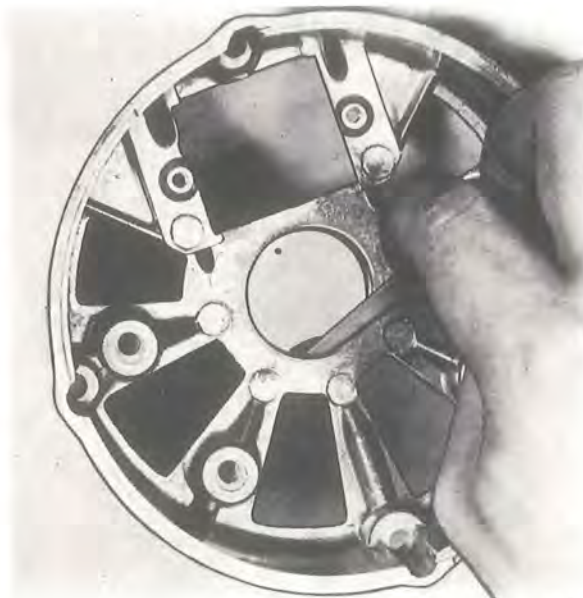

Fig. 3-18. Removing the O-ring
1. Remove the O-ring with a steel blade with rounded edges (for example, a feeler gauge), see Fig. 3-18.